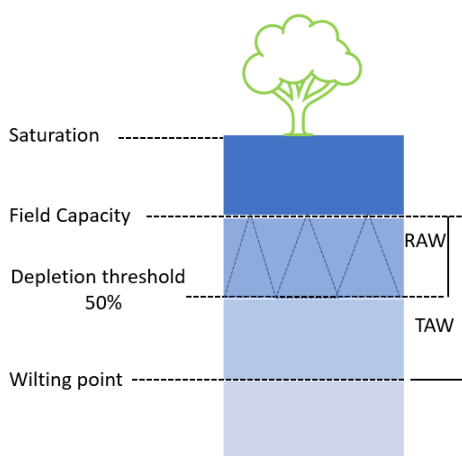

Figure 3: Soil-based irrigation scheduling
When we talk about how much water soil can hold for plants, we use three terms. The first term is "field capacity" (FC). FC is the water that is left in the soil after most of it has drained away, usually about 3 to 4 days after watering. The second term is "permanent wilting point" (PWP). PWP is when the soil has so little water left that plants cannot take it up anymore. And the third term, "Total available water" (TAW), is the difference between field capacity and permanent wilting point, (Figure 3). TAW is the space required to manage your soil water depletion. Deciding how dry you are okay with the soil getting before irrigation, is called management allowable depletion (MAD) and is usually set around 50% (table 2). Depleting the soil water beyond this point will negatively impact plant growth and yield.